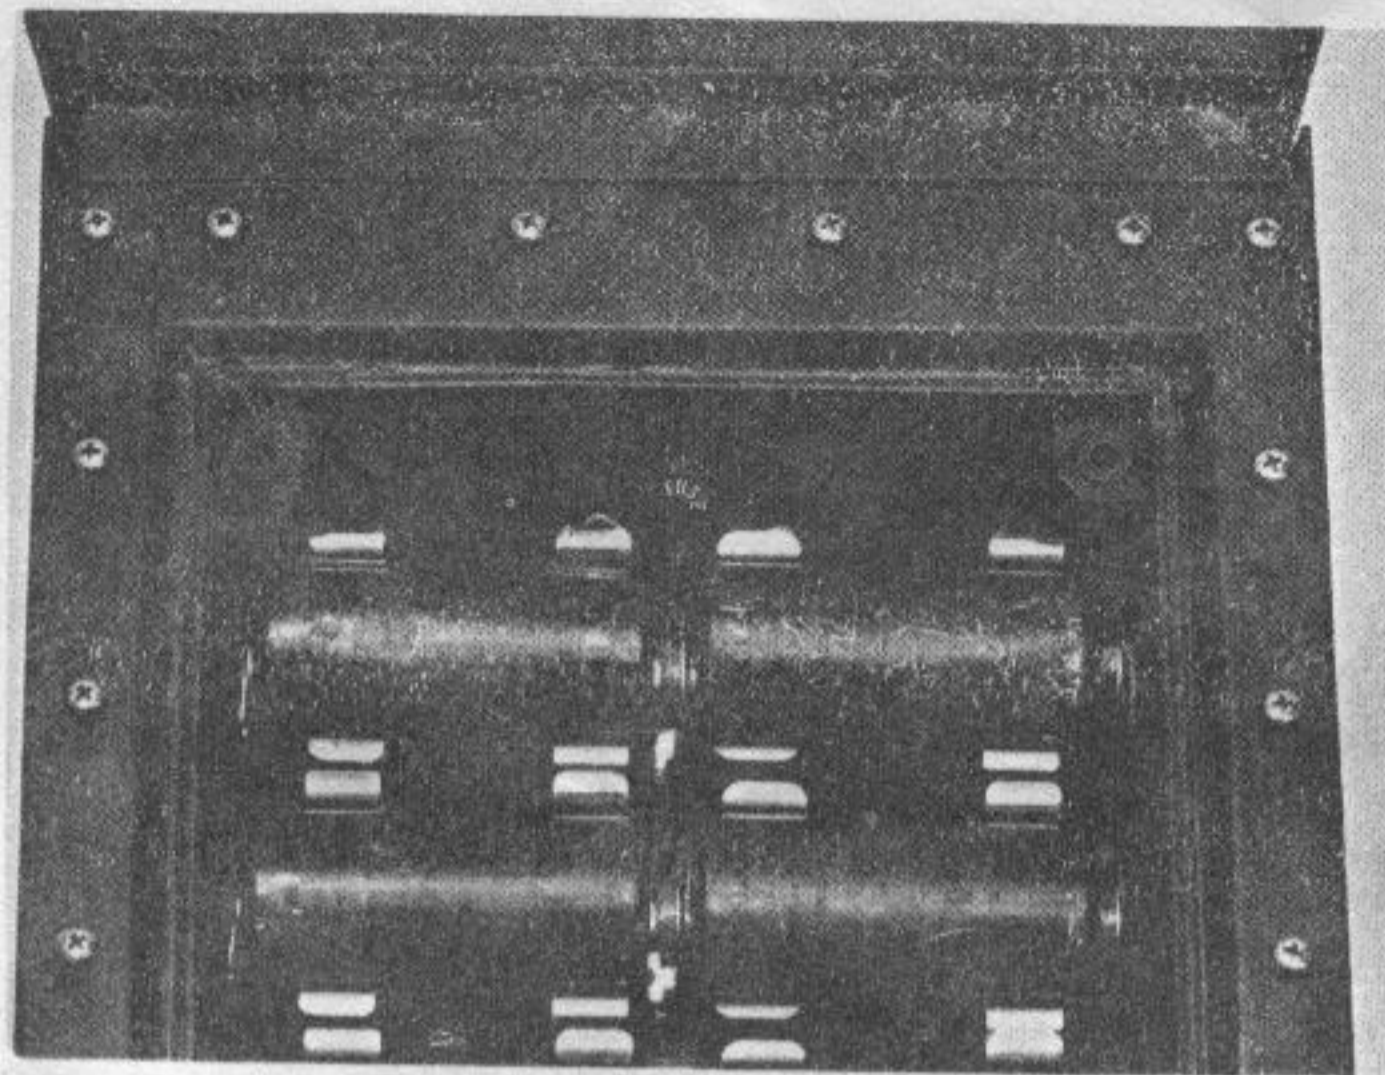

Figure 12. Fuse Location
5.2.6 FUSE CHECK. Remove the control set from the canvas bag, open battery cover and withdraw fuse from holder (Figure 12). Connect fuse to input terminal pair 1 with a short piece of 2-conductor field wire (1.5.2.1), using thumb and fingers to hold one conductor on each end of fuse. Rotate SENSITIVITY knob about 1/4-turn clockwise and METER switch to LINE. Depress switch 1 and observe meter reading. SHORT FAULT indicates a good fuse; OPEN FAULT indicates a burnt fuse. If open, replace with new 1/16-amp fuse.